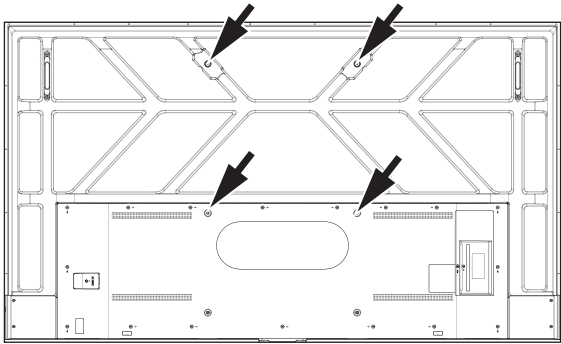

Figure 1: Horizontal installation
5. This product can be both used in horizontal mode and vertical mode. The horizontal installation is shown in Figure 1, and the vertical installation state is shown in Figure 2.